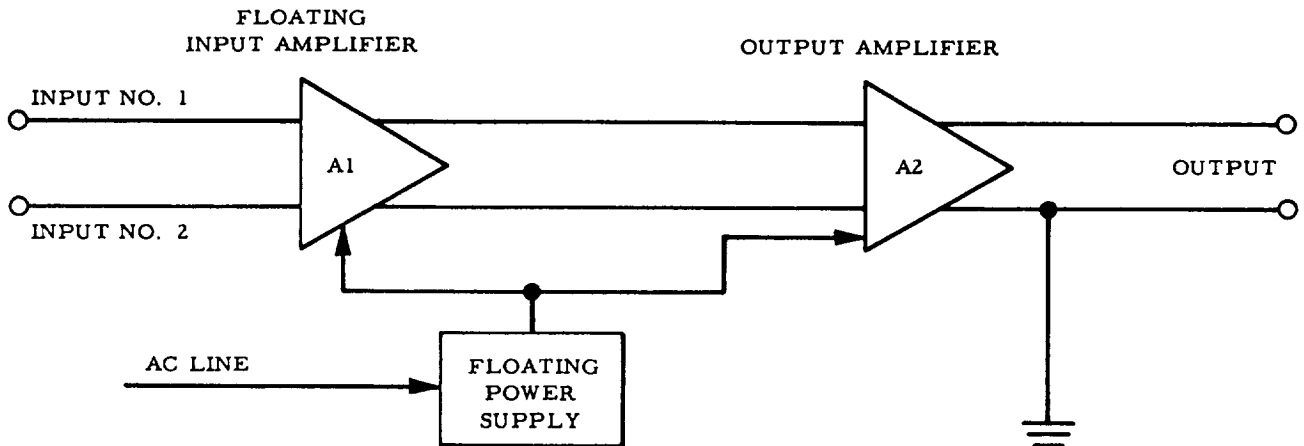

Figure 7. Simplified Block Diagram of Model 1300 Differential DC Amplifier
3.2 Basic Principles of Operation. Essentially, the model 1300 amplifier (figure 7) consists of three principal circuit sections: (1) floating input amplifier A1, a multistage amplifier that is stabilized by a closed-loop potentiometric feedback circuit; (2) output amplifier A2, a differential operational amplifier that is stabilized by a differential feedback loop; and (3) a floating power supply that is completely isolated from the ac line. Selectable precision resistors inserted in the feedback loops vary the gain product of the two amplifiers from 10 to 1000 in fixed steps. A continuously variable vernier control may be switched in to vary the amount of feedback, thus permitting the gain to be set against a calibrated input to any desired gain factor between 10 and 2500.